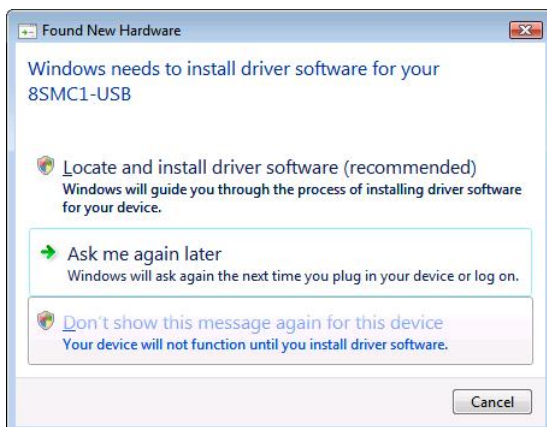

Figure 72. Skip automatic driver installation choosing "Don't show this message again for this device" option.
- Then disconnect USB cable of 8SMC1-USBhF controller and connect it again. When Hardware Wizard will find new hardware and offer you to install driver skip it choosing "Don't show this message again for this device" option (see Figure 72).